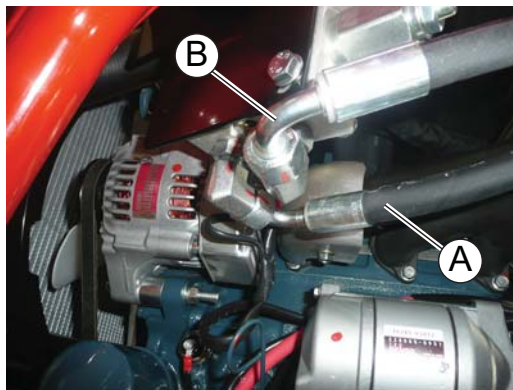
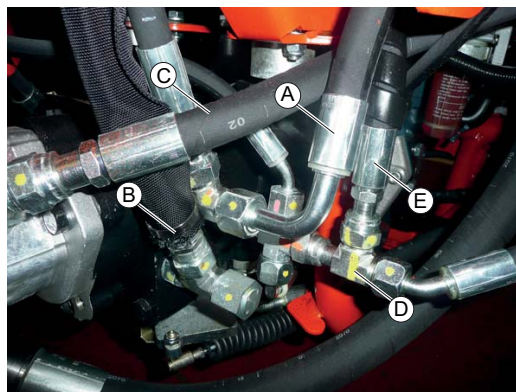

Figure 16
Figure 17
21. Remove cap from the upper T-piece on the pump. Install and secure hydraulic hose 4240304 C Figure 16, connecting the upper T-piece of the pump with the bottom left elbow on the flushing valve A Figure 15.
22. Secure 11/16 ORFS T-piece D Figures 16, part 002498400, to existing cross. Reinstall and secure original hose to the end of the T-piece E Figures 16 4147141. Install and secure to connector the T-piece branch part and connect to bottom right hand connector B Figures 17 of the flushing valve.